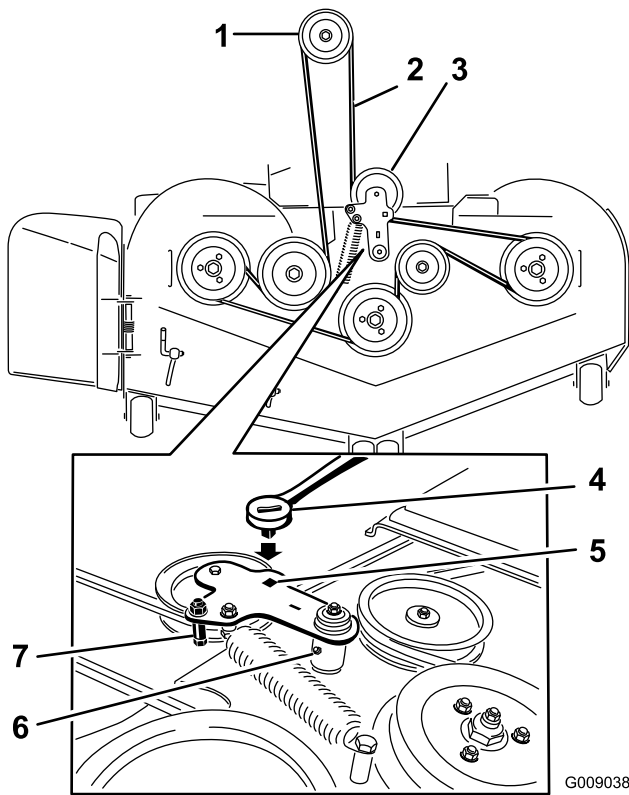

Figure 102
- Lift up the floor pan and insert a ratchet into the square hole in the deck idler (Figure 102).
- Rotate the deck idler clockwise and remove the mower belt (Figure 102).